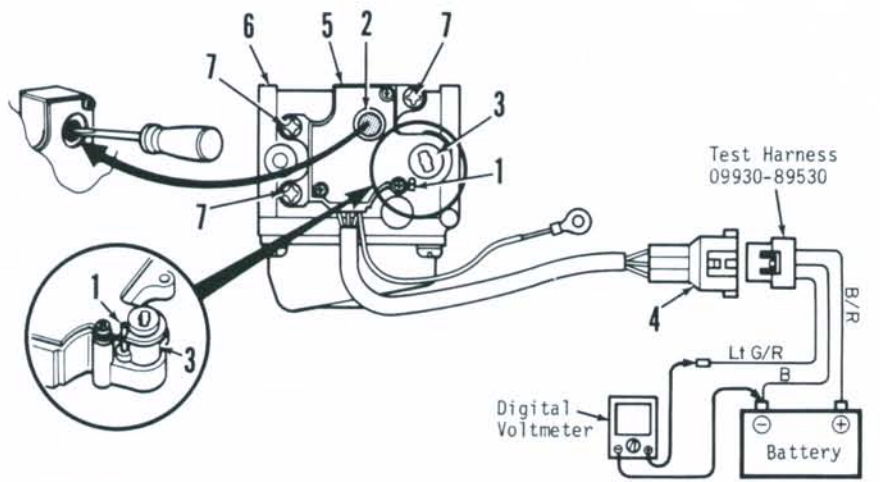

Fig. SZ11-48—Refer to text for throttle valve sensor testing and installation procedure.
THROTTLE VALVE SENSOR. To test throttle valve sensor (5—Fig. SZ11-48), remove alignment pin attached to cover over throttle valve sensor and insert alignment pin (1) into hole in sensor and sensor cam (3). Align slot in cam (3) with throttle shaft. Disconnect throttle valve sensor connector (4). Connect test harness 09930-89530 or suitable jumper wires to a battery as shown in Fig. SZ11-48. Battery voltage must be nine volts or more. Connect positive (+) lead of a suitable digital voltmeter to test harness light green wire with red tracer and voltmeter negative (–) lead to battery
digital voltmeter as shown in Fig. SZ11-48. Make sure battery voltage is nine volts or more. Sensor output voltage at closed throttle should be 0.45-0.55 volt. If not, move position of sensor on carburetor to obtain specified voltage and securely tighten screws (7). Recheck voltage after tightening screws (7) and if necessary, remove cap (2) and turn adjustment screw to obtain 0.45-0.55 volt. Be sure to reinstall cap (2). After obtaining the correct voltage at closed throttle, remove alignment pin and check sensor output voltage at wide-open throttle. Voltage should be 2.7 volts or higher. Do not attempt to adjust wide-open throttle voltage.